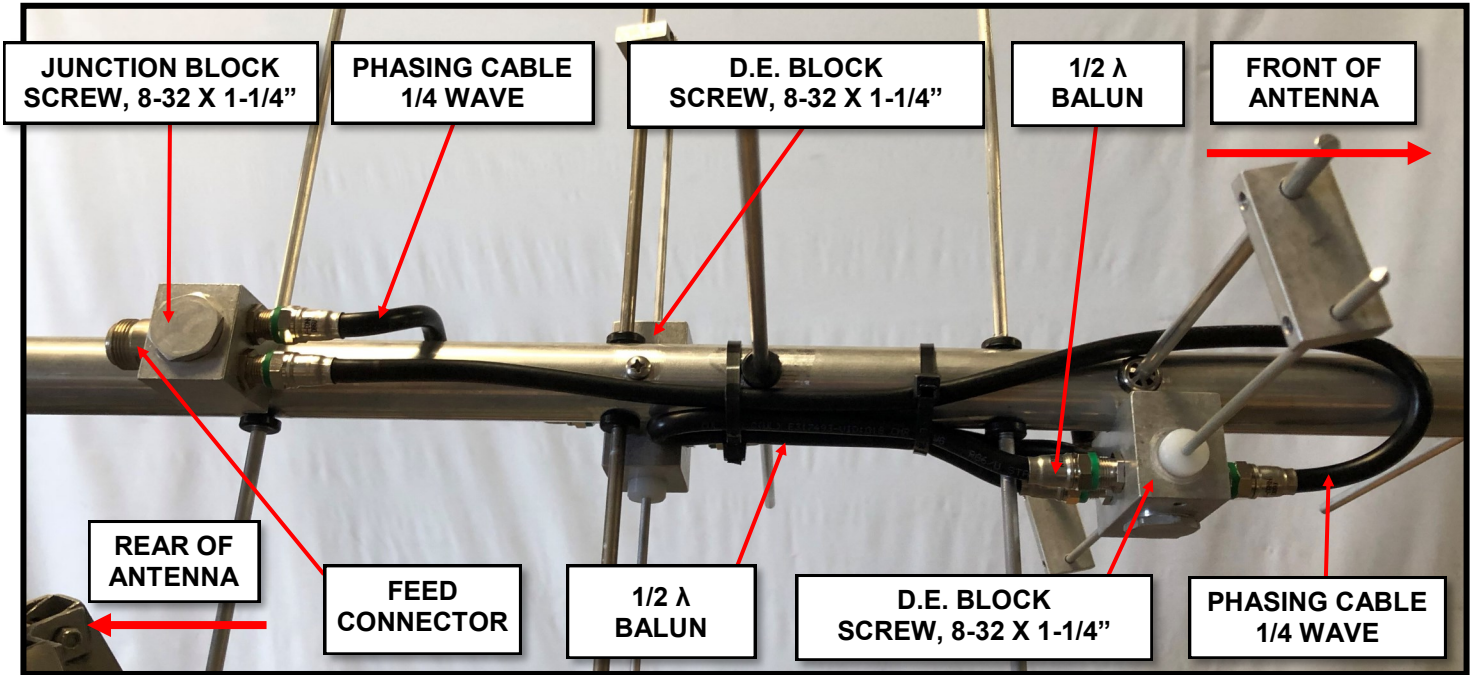

FIG. 3
6. Mount the **JUNCTION BLOCK** as shown on the Dimension Sheet. Secure with 8-32 x 1-1/4" screw. See FIG. 3 AND 4 for more information.